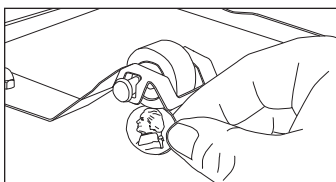

Figure 4. Measure Roller
1. Measure the Roller Tensioner on both inner Conveyor Cover(s) (Figure 4) according to the instructions in the Owner’s Manual and adjust or replace any damaged ones as recommended. The space between the inner Conveyor Cover and the bottom of the Roller Tensioner wheel should be $13/16$ ” (2.1 cm) or the height of a U.S. Nickel.